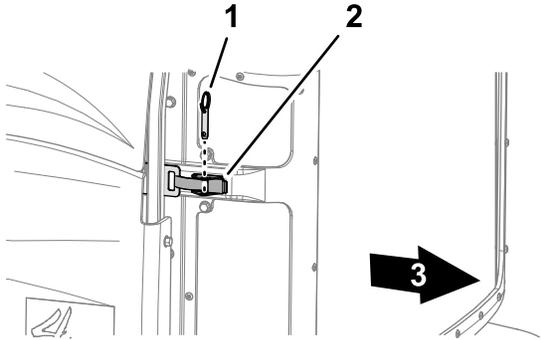

Figure 67
2. Remove the ball pin from the screen latch (Figure 67)